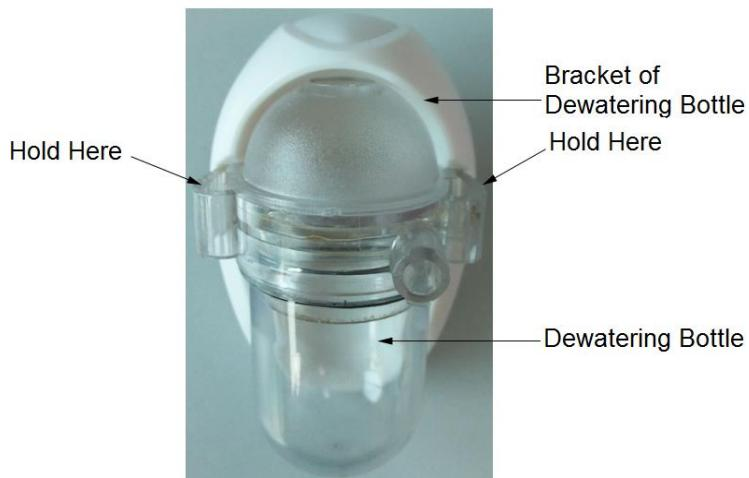

Figure 6.44 Dewatering Bottle Attaching and Detaching Diagram
1. Attach a water tank to a base firmly and connect the CO₂ measuring assembly, shown in Figure 6.44.
2. As shown in Figure 6.44, hold the two ends of dewatering bottle and gently pull the tube down to remove water.